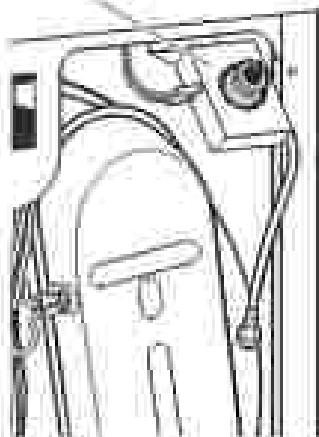

Figure 71 - Water System Components.
- Check that the hoses and wires are connected to the water valve assembly (see figure 71).
- Check that hoses and wires are connected to the water valve assembly (see figure 71).